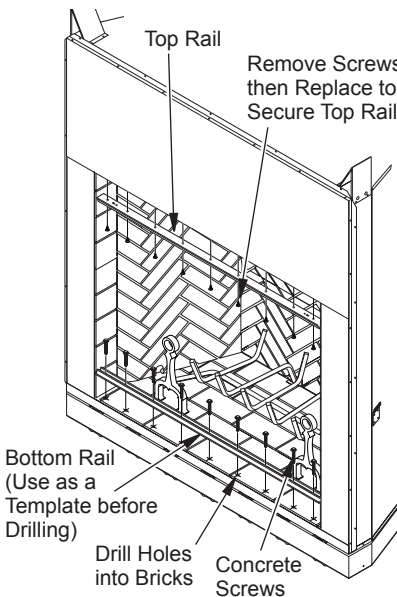

Figure 23 - Securing Door Rails to Fireplace
1. Remove screws securing top face to firebox (see Figure 23).
3. Using remaining door rail as a template, place along front row of bricks at bottom making sure rail front surface is flush with fireplace bottom face surface. Mark hole centers and remove rail (see Figure 23).